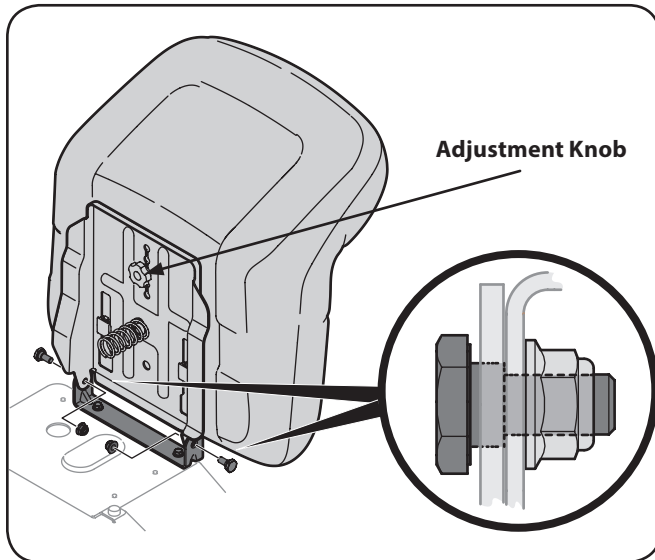

Figure 3-7
6. Install the two shoulder bolts and lock nuts removed from the seat mounting bracket in Step 1. See Figure 3-7.
7. To adjust the position of the seat, remove the adjustment knob on the bottom of the seat. Slide the seat forward or backward as desired. Retighten the adjustment bolt. Refer to Figure 3-7.